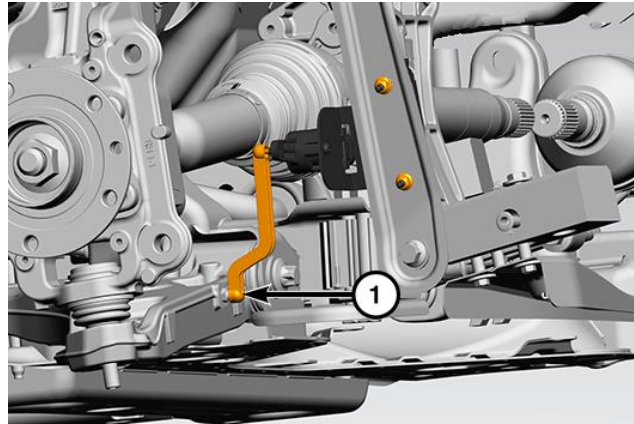

Figure 19 – Height Sensor Actuator Rod
24. **If equipped,** Disconnect the vehicle height sensor actuator rod (1) from the lower control arm (Figure 19).